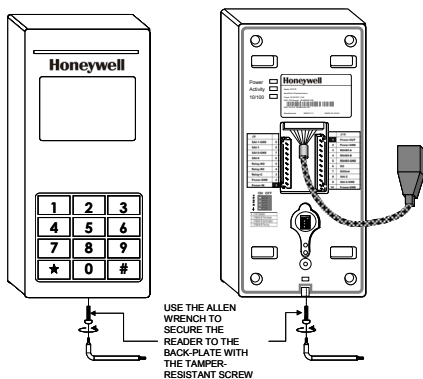

Fig.9. Securing the IdentiPoint reader to the back-plate
6. Use the Allen wrench to tighten the tamper-resistant screw at the bottom of the reader. See **Fig.9**.
5. Use the Allen wrench to tighten the tamper-resistant screw at the bottom of the reader. See **Fig.9**.